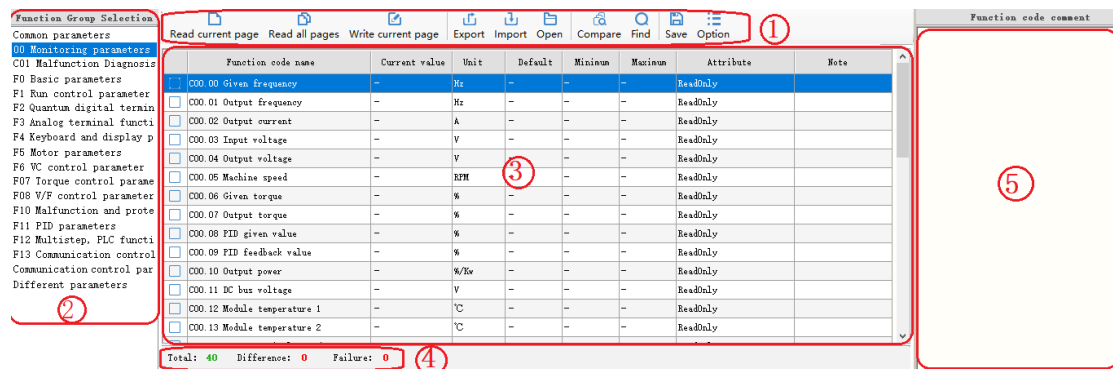

Figure 6
2. The interface of system parameters reading and writing are shown figure 6 as below: